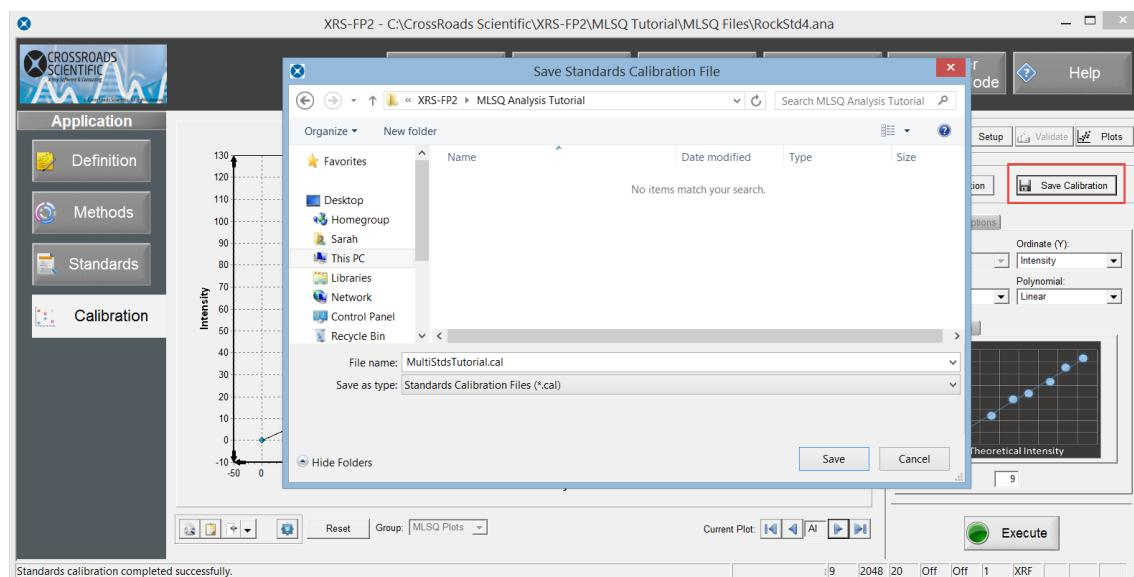

Figure 20. Save MLSQ Calibration. Save the full MLSQ calibration (a *.cal file and an *.ana file) using the "Save Calibration" button.
- 27.** Now click the **Save Calibration** button (see Fig. 20 below) to save the full SIRFP - MLSQ calibration. This will save 2 files. The *.cal file contains a list of all the ANA files used in the calibration along with the chosen model. The *.ana file contains all the secondary coefficients necessary to generate TCC values over the range of the calibration standards along with the slope and intercept information. For example, the two files saved in this tutorial are the default names: "SIRFP-MLSQ_Tutorial.cal" and "SIRFP-MLSQ_Tutorial.ana". Save these files in this location: C:\CrossRoads Scientific\XRS-FP2\SIRFP Analysis Tutorial. Click "OK" to continue and to acknowledge that the two files, "SIRFP-MLSQ_Tutorial.cal" and "SIRFP-MLSQ_Tutorial.ana" have been saved.